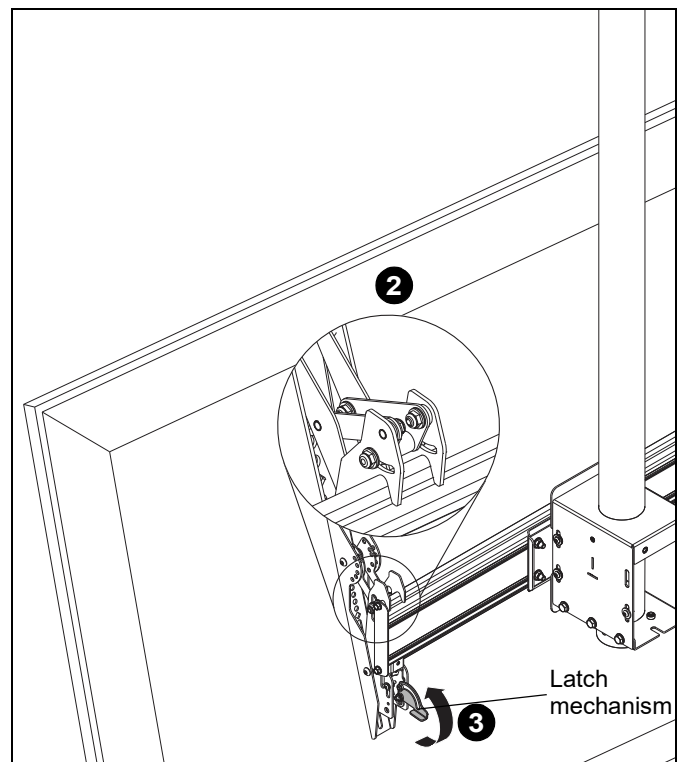

Figure 6
2. While supporting both sides of display, lower display onto ceiling mount, hooking top of interface brackets onto front of ceiling mount. (See Figure 6)
3. Raise the latch mechanism on both interface brackets to lock bracket in place. (See Figure 6)